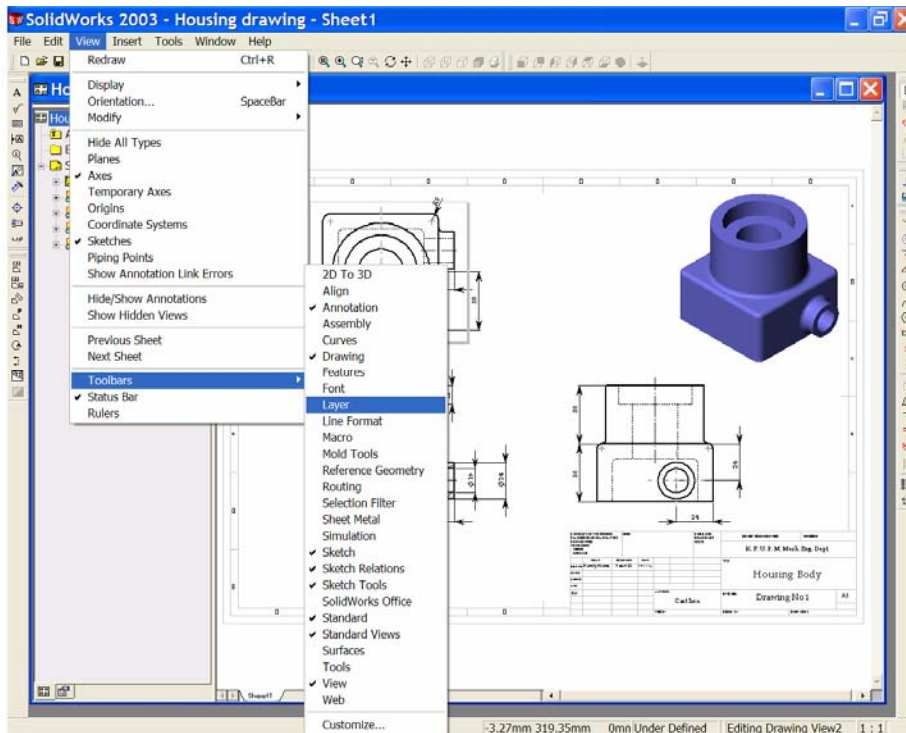

Figure 1
2. *The first enhancement we will add to the drawing will be layers.* Figure 1 indicates the route to the layer toolbar. Go ahead and open the layer toolbar. The toolbar may 'float' or may be 'anchored, (fixed) at a convenient location on your screen.